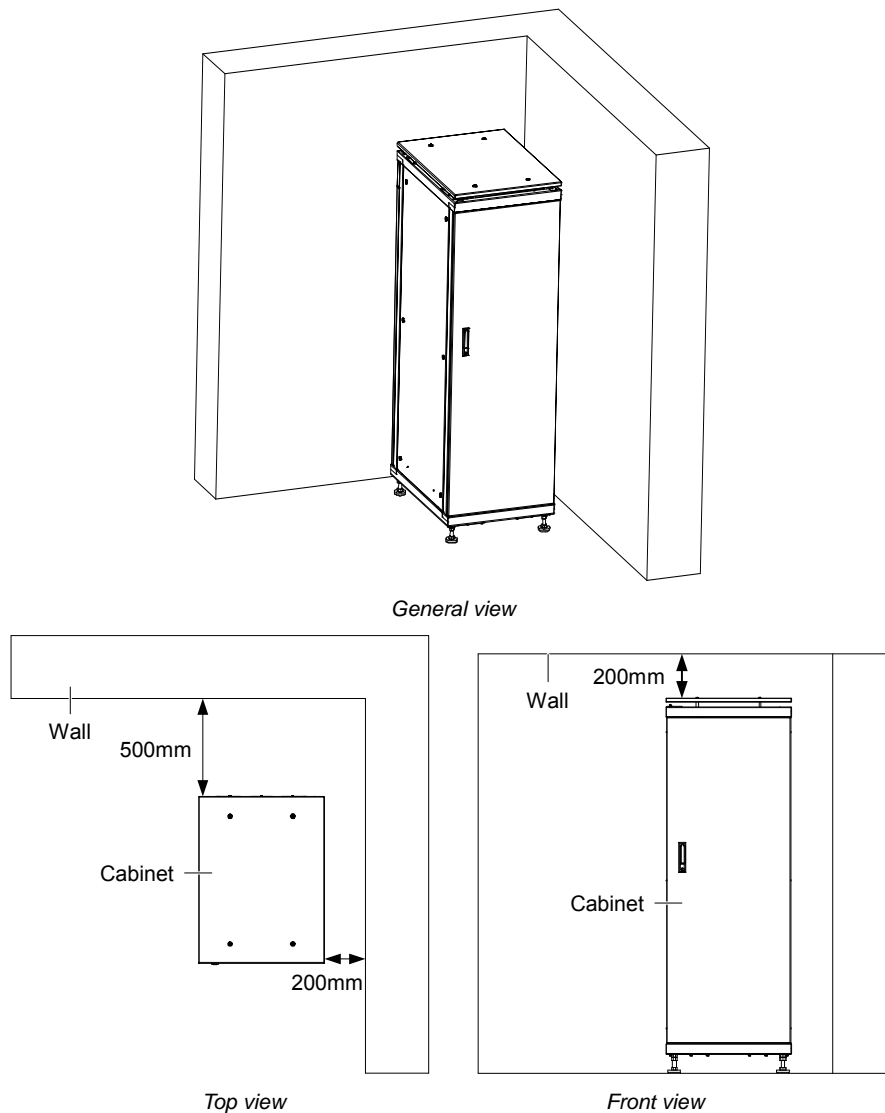

Figure 2-6 Installation clearances
4. If battery module installation is necessary, take out other support base extensions delivered with the battery module, and then assemble the support base extensions and the support bases through the fastenings, as shown in Figure 2-6.